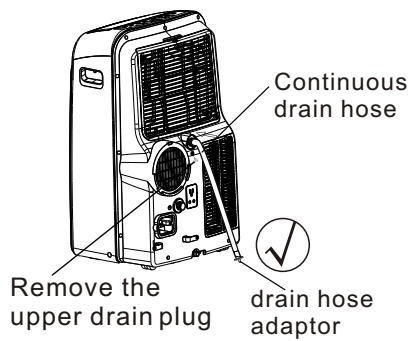
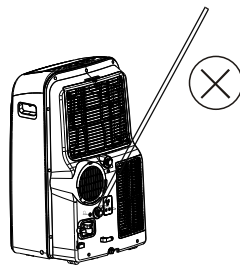

Fig.20a
Fig.21b
- During dehumidifying modes, remove the upper drain plug from the back of the unit, install the drain connector(5/8" universal female mender) with 3/4" hose(locally purchased). For the models without drain connector, just attach the drain hose to the hole. Place the open end of the hose adaptor directly over the drain area in your basement floor. Please refer to Fig.20a.
NOTE: Make sure the hose is secure so there are no leaks. Direct the hose toward the drain, making sure that there are no kinks that will stop the water flowing. Place the end of the hose into the drain and make sure the end of the hose is down to let the water flow smoothly.(See Fig.20a,20b,21a). Do never let it up.(See Fig.21b).